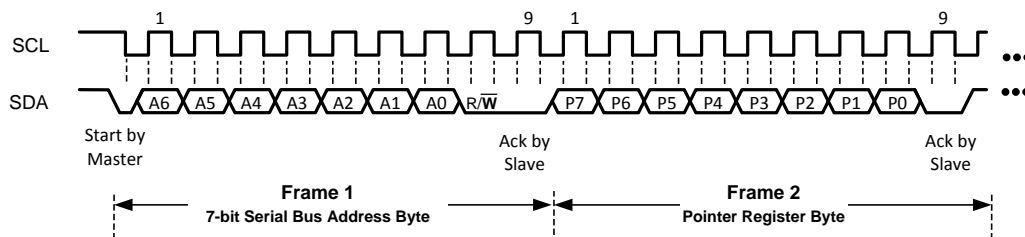

Figure 12. Trigger Humidity/Temperature Measurement
2. Trigger the measurements by executing a pointer write transaction with the address pointer set to 0x00. Refer to Figure 12.
- 2. Trigger the measurement by executing a pointer write transaction. Refer to Figure 12